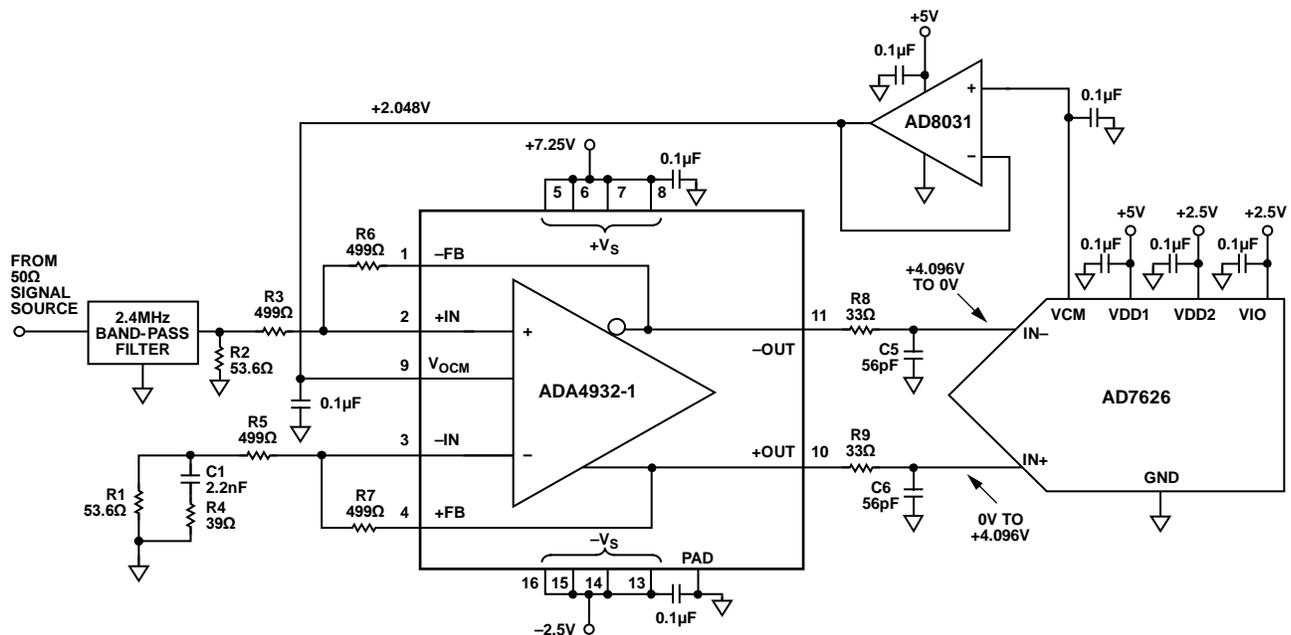

Figure 1. ADA4932-1 Driving the AD7626 (All Connections and Decoupling Not Shown)
The circuit shown in Figure 1 provides a method to convert a high frequency, single-ended input signal to a balanced differential signal that is used to drive the AD7626 16-bit, 10 MSPS, PulSAR® analog-to-digital converter (ADC). The circuit maximizes the AD7626 performance for high frequency input tones using the ADA4932-1 low power differential amplifier to drive the ADC. The benefit of this combination of devices is high performance at low power.
Using a differential amplifier to drive an ADC successfully is linked to balancing each side of the differential amplifier correctly. Figure 1 shows the schematic for the ADA4932-1, AD7626, AD8031, and associated circuitry. In the test circuit used, the signal source is followed by a 2.4 MHz band-pass filter. The band-pass filter eliminates the harmonics of the 2.4 MHz signal and ensures that only the frequency of interest is passed to and processed by the ADA4932-1 and AD7626.
The Thevenin equivalent network is shown on the inverting input (IN-) of the ADA4932-1 in Figure 1. This circuit is optimized for performance at 2.4 MHz. The R1 resistor is paralleled by the series combination of C1 and R4. At 2.4 MHz, the complex series combination of C1 and R4 equals 55.6 Ω. The 55.6 Ω impedance in parallel with R1 is within a few ohms of the Thevenin equivalent circuit input impedance on the non-inverting input. Matching of the two inputs ensures that the outputs are symmetrical, balanced, and optimized for lowest distortion.
The common-mode voltage at the output of the ADA4932-1 is set by buffering the VCM pin output voltage (nominally 2.048 V) from the AD7626 with the AD8031 configured as a unity-gain buffer. The AD8031 provides the ADA4932-1  $V_{OCM}$  pin with a low source impedance and is capable of driving the large bypass capacitor, as shown in Figure 1.
The ADA4932-1 is particularly useful when driving higher frequency inputs to the AD7626, a 10 MSPS ADC with a switched capacitor input. The resistor (R8 and R9) and capacitor (C5 and C6) circuit between IN+ and IN- pins of the ADA4932-1 and AD7626 acts as a low-pass filter to noise. The filter limits the input bandwidth to the AD7626, but the main function of the filter is to optimize the interface between the driving amplifier and the AD7626. The series resistor isolates the driver amplifier from high frequency switching spikes from the ADC switched capacitor front-end. The AD7626 data sheet shows values of 20 Ω and 56 pF. In the circuit shown in Figure 1 these values were empirically optimized to 33 Ω and 56 pF. The resistor capacitor (RC) combination can be optimized slightly for the circuit and input frequency being converted by simply varying the RC combination. Note that the incorrect RC combination limits the total harmonic distortion (THD) and linearity performance of the AD7626. Increasing the bandwidth as seen by the ADC introduces more noise.